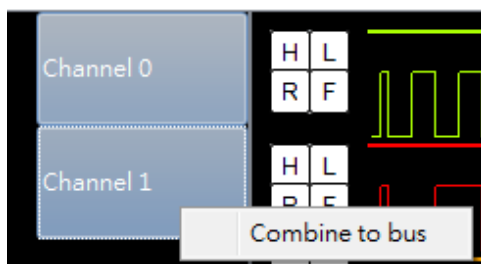

Figure 4-9 Combine Channels to Form a Bus
2. Right-click on one of the selected channels to display a pop-up menu for bus management, as Figure 4-9 shows. Then left-click on the "Combine to bus" menu item to create a bus.